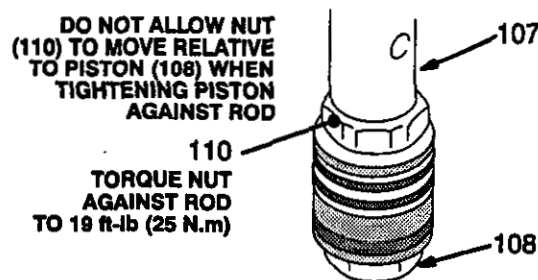

Fig 23
6. Hand tighten the valve into the piston rod just until the nut (110) contacts the rod. See Fig 23.
7. Place the flats of the rod (107) in a vise.
8. **CAREFULLY** tighten the nut (110) against the piston rod to 19 ft-lb (25 N.m). See Fig 23.